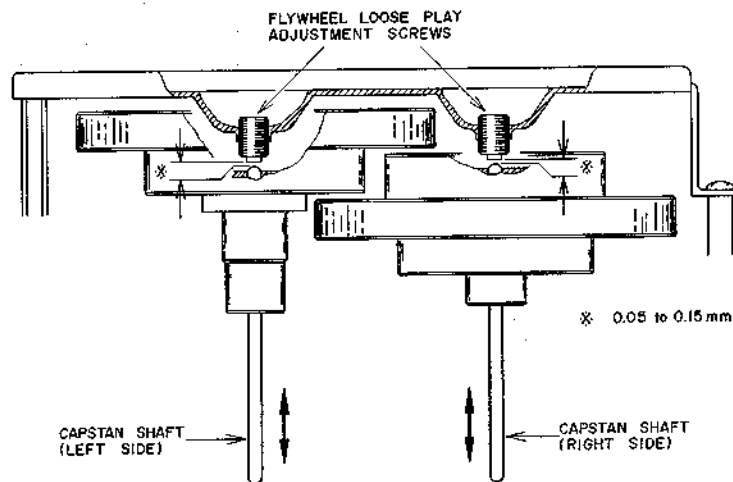

Fig. 7
1. FLYWHEEL LOOSE PLAY ADJUSTMENT (Refer to Fig. 7)